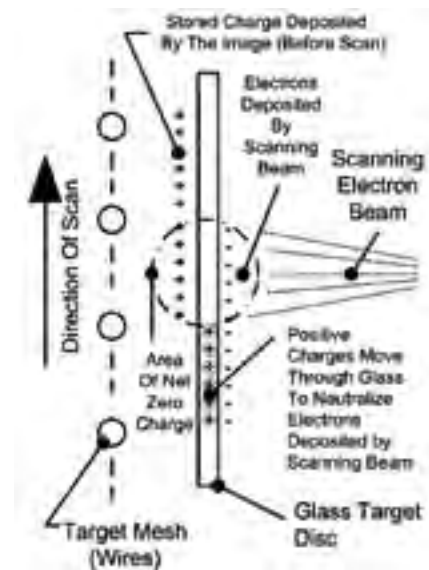

Figure 7 - Target Charges
shoulder of the tube. The photo cathode (PC) is biased to about negative 600V, while the target mesh electrode adjacent and in front of the glass disc is near ground (set to about plus two volts). See figure 7.